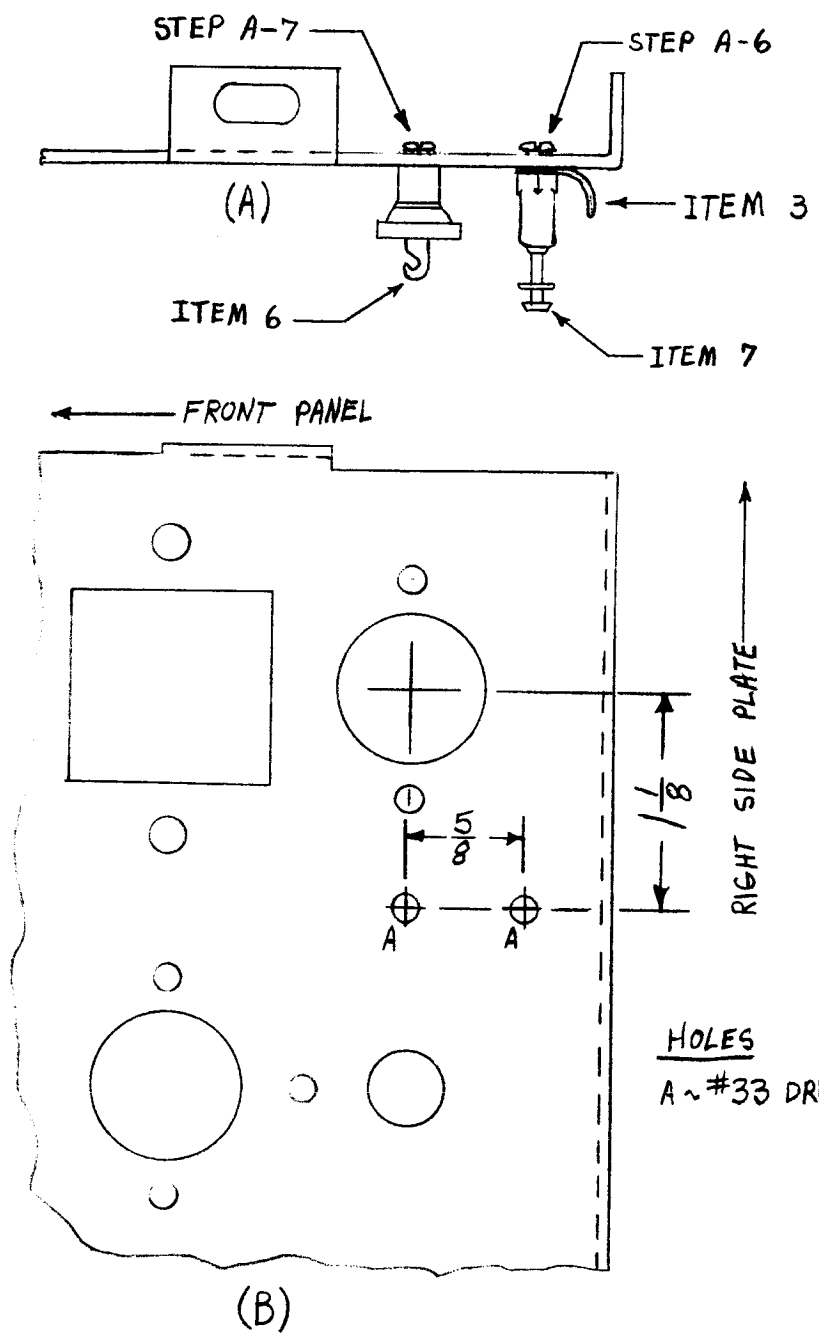

FIGURE 1*
3. Mark appropriate spot on the chassis, for the drilling of the two holes used for mounting of the turret terminal and button capacitor (hole locating dimensions shown in Figure 1).
6. Mount the turret terminal (Item 7) and locking terminal lug (Item 3) by use of the 4-40 hardware (Items 8 & 10) as shown in Figure 1.
7. Mount the button capacitor (Item 6) by use of the 3-48 hardware (Items 9 & 11) as shown in Figure 1.